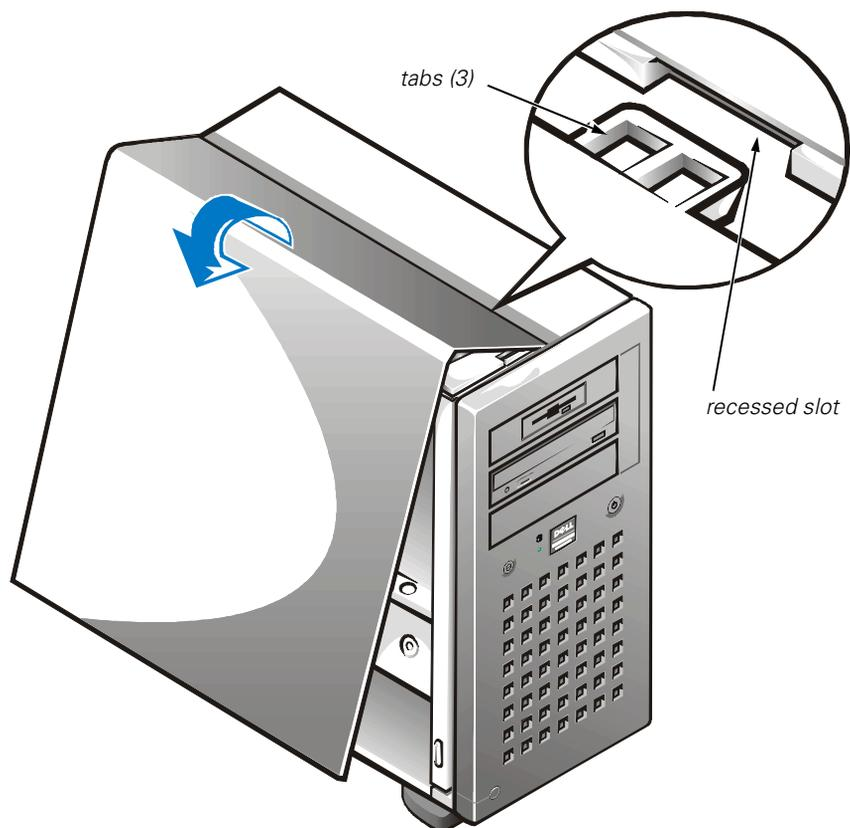

Figure 7-3. Replacing the Computer Cover
4. Facing the left side of the computer, hold the cover at a slight angle as shown in Figure 7-3, and then align the top of the cover with the top of the chassis. Hook